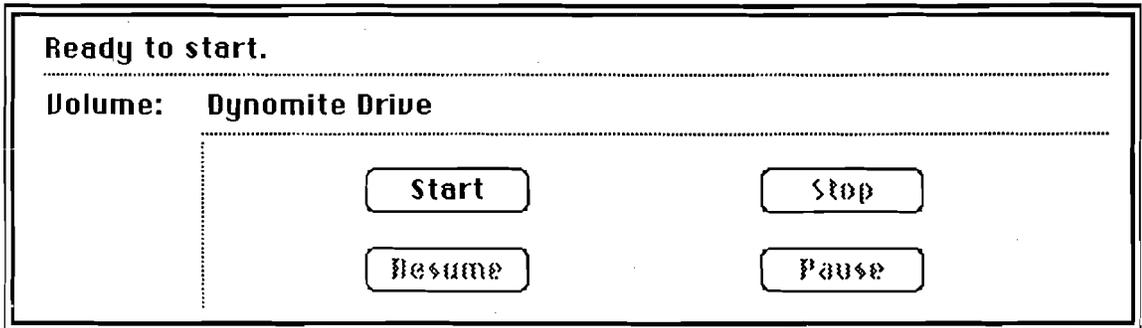

FIGURE 4
7. The **Ready to start** window shown in Figure 4 will appear onscreen. From this window, *if the drive being repaired is not the startup disk*, then you have the following options: